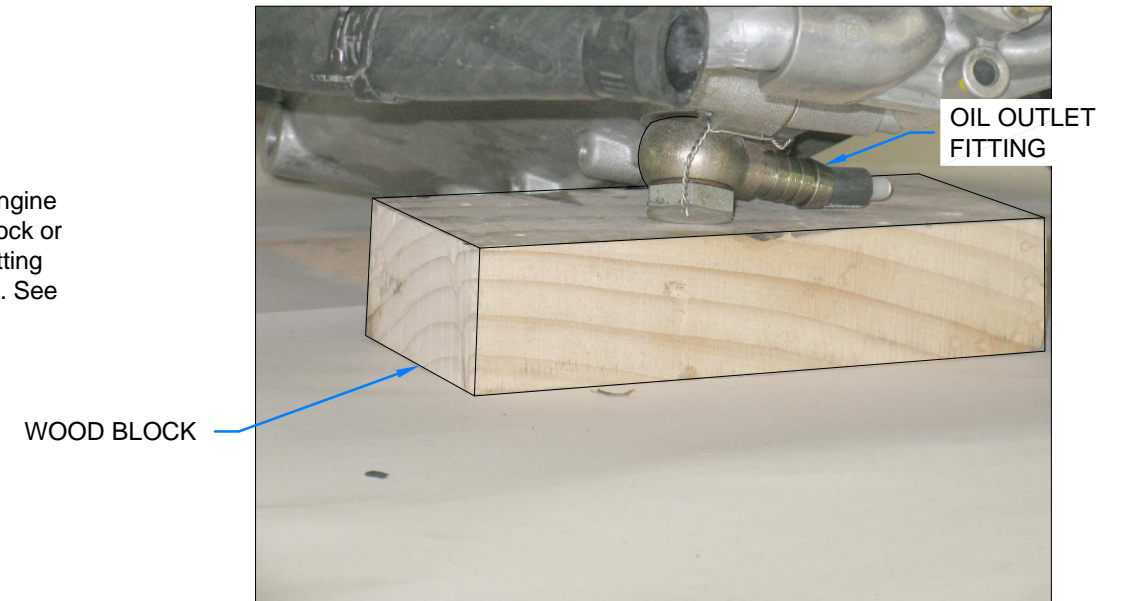

FIGURE 5: TILT UP ENGINE (OBSOLETE FITTING SHOWN)
Step 4: Tilt up the back of the engine and support with a 2x4 wood block or equivalent under the oil outlet fitting on the bottom of the crank case. See Figure 5.